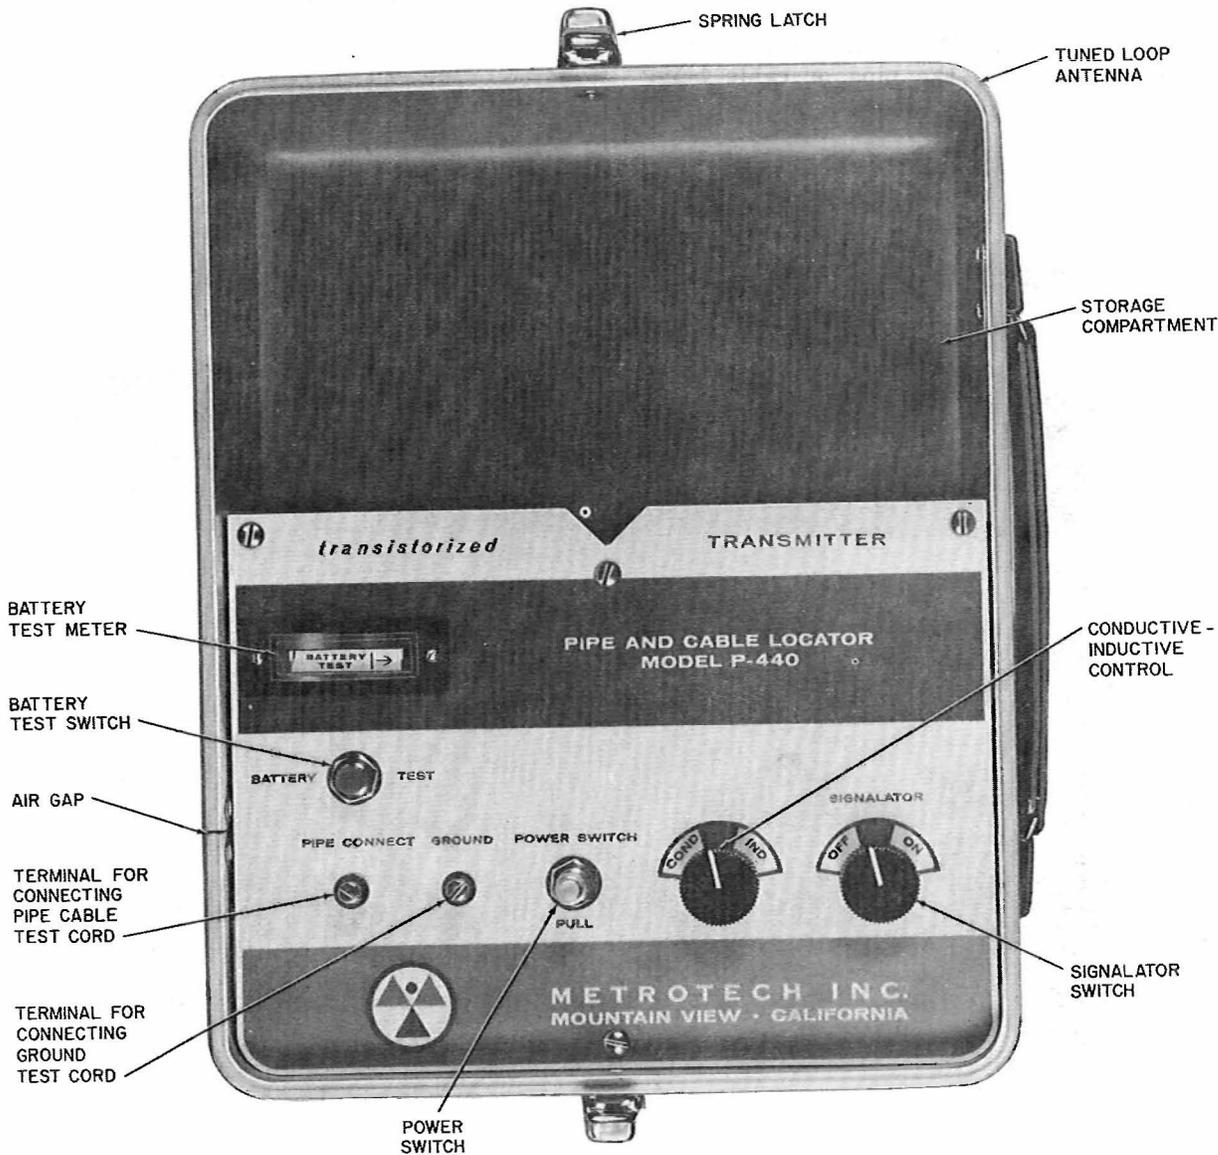

Fig. 13—Transmitter Assembly
11.05 The battery-powered directional radio-type transmitter assembly (Fig. 13) generates an electromagnetic field which surrounds the buried metallic object to be located. It is equipped with a tuned loop antenna, a storage compartment, BATTERY TEST meter, and the following controls and terminals: